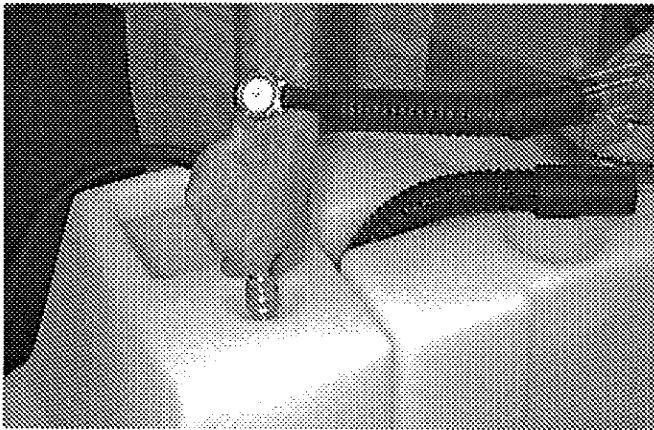

FIG. 8
2. Connect solution hose to solution hose connector at front of machine. (Figure 8)